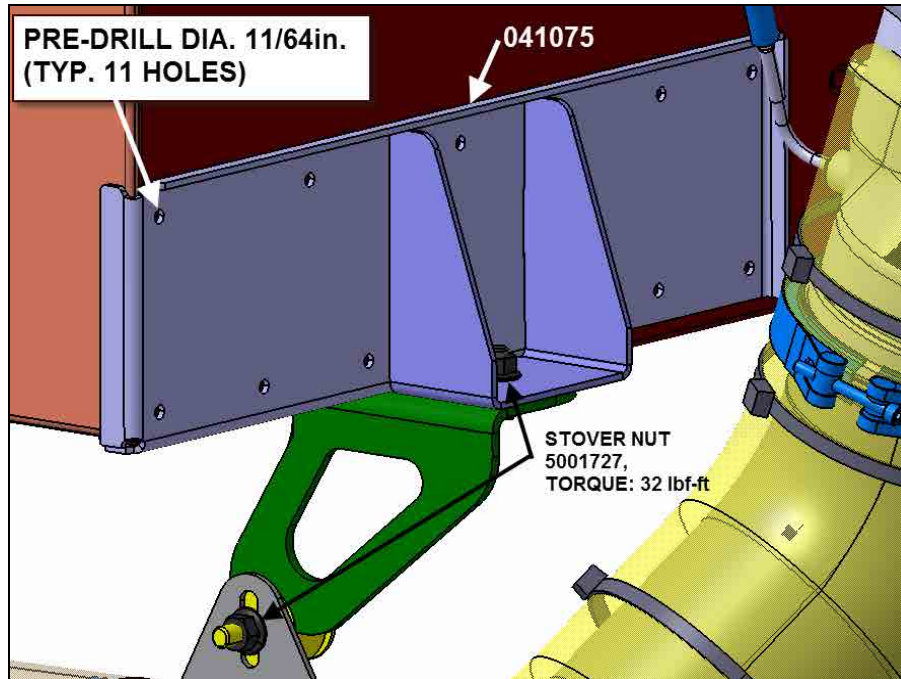

FIGURE 2
- 9) Using support #041075 as reference for drillings position, pre-drill 11 holes of **11/64in** diameter. Using self-tapping screw #5001169 (or #500526), secure support #041075 onto bulkhead (figure 2).
- 11) Using existing bolts, reinstall exhaust pipe bracket. Use new Stover flange nuts #5001727 (figure 2).